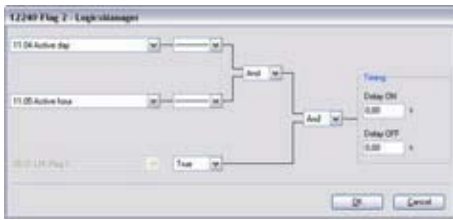

Fig. 175: LogicsManager function "Flag 2"
2. ➤ Configure the LogicsManager function "Flag 2" (parameter 12240 ↗ p. 371) as shown in (Fig. 175).